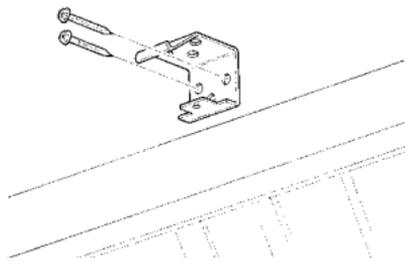

Figure C4
5. Mount the bracket using two of the screws provided. (See Figure C4)